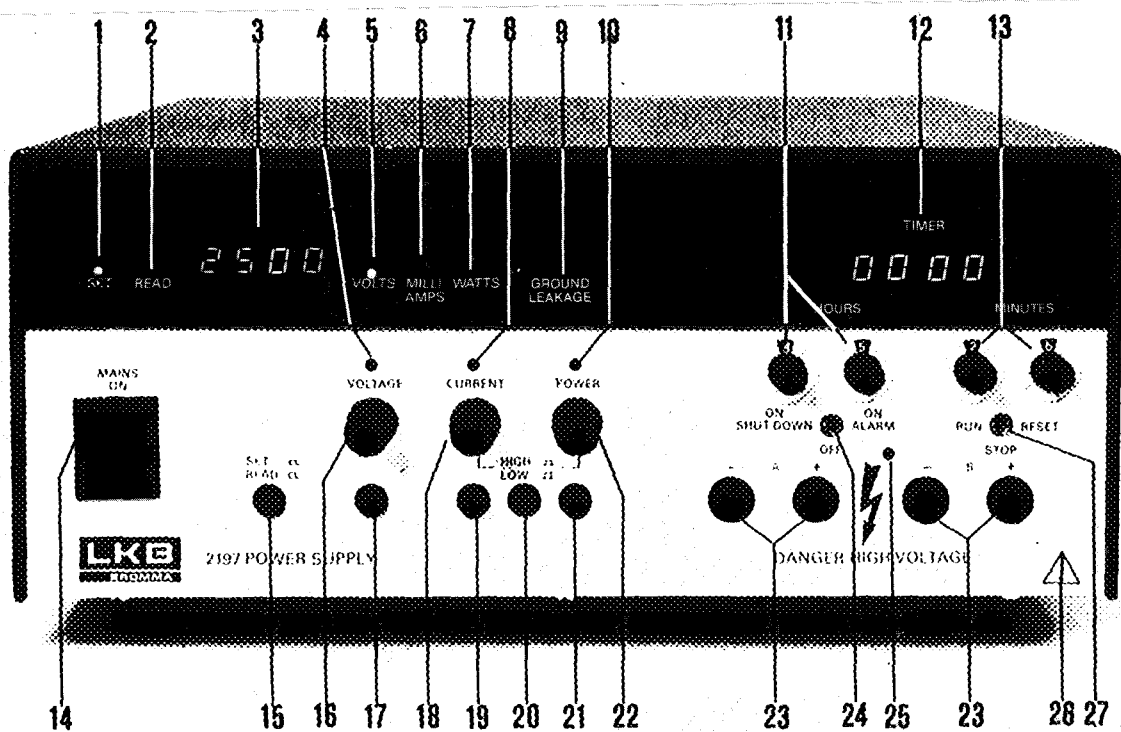

Fig. 1
3. Connect the electrophoresis unit to the outlet A (23 in Fig 1).